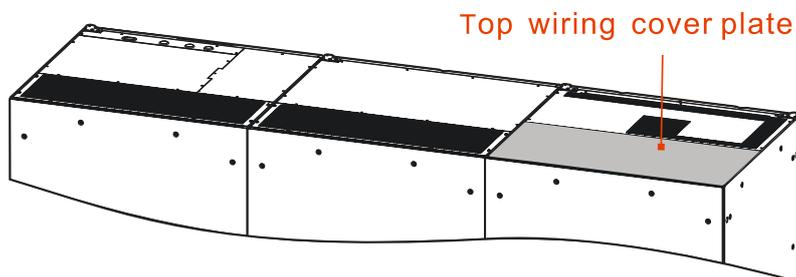

Figure3-45 Top wiring cover plate position of PS1000KVA, PS1200KVA
- Step 2 Unscrew the fasten bolts of top wiring cover plate (as shown in Figure3-45) by screwdriver and take them down.